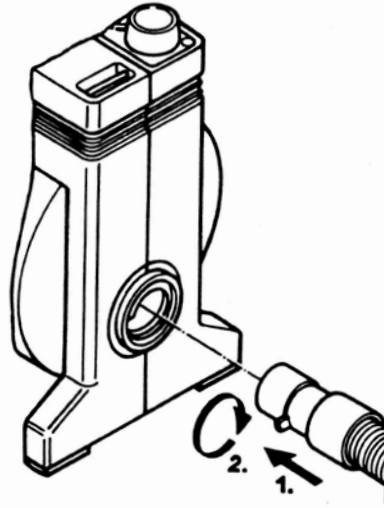

Fig. 3
- Connect air hose to blower unit. To do this tighten the air hose connector piece in the opening on the blower unit by turning to the right (fig. 3).